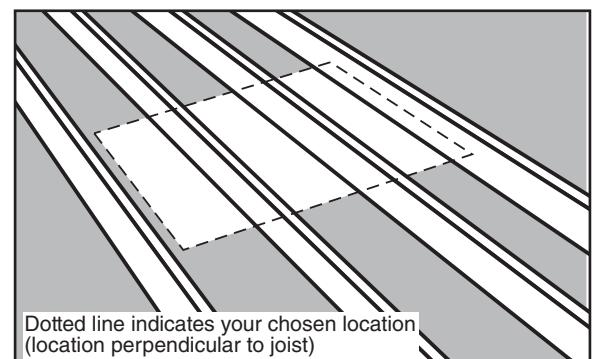

FIGURE 8
- (B) If the chosen location is perpendicular to the joists, mark the rough opening width on top of the joists (See Figure 8).